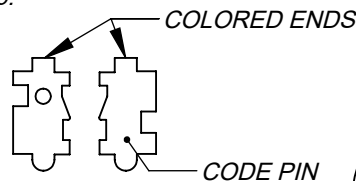
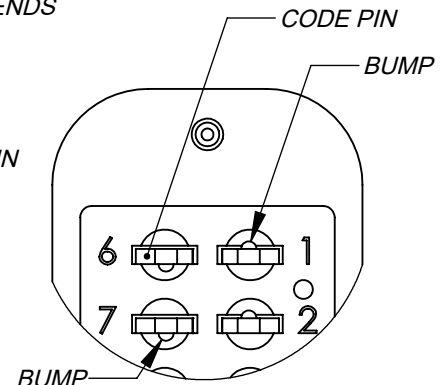

Figure 3
Figure 4
2) Select red code pins for the new passcode buttons, and blue code pins for the non-passcode buttons. Extra red and blue code pins are included with the hardware. To remove and add pins for a particular button, press and hold down the C button, and use the included tweezers to remove the current pin and insert the new pin. Release the C button after the new pin has been added. Note: The colored ends of the code pins should face out of the holes (Figure 3), the code pins on the left should have the bumps facing down (Figure 4), and the code pins on the right should have the bumps facing up.